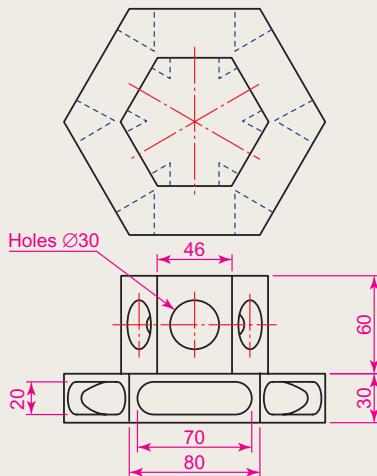

Fig. 17.35 Exercise 2 – details of shapes and sizes
- The two-view projection (Fig. 17.35) shows a stand consisting of two hexagonal prisms. Circular holes have been cut right through each face of the smaller hexagonal prism and rectangular holes with rounded ends have been cut right through the faces of the larger.